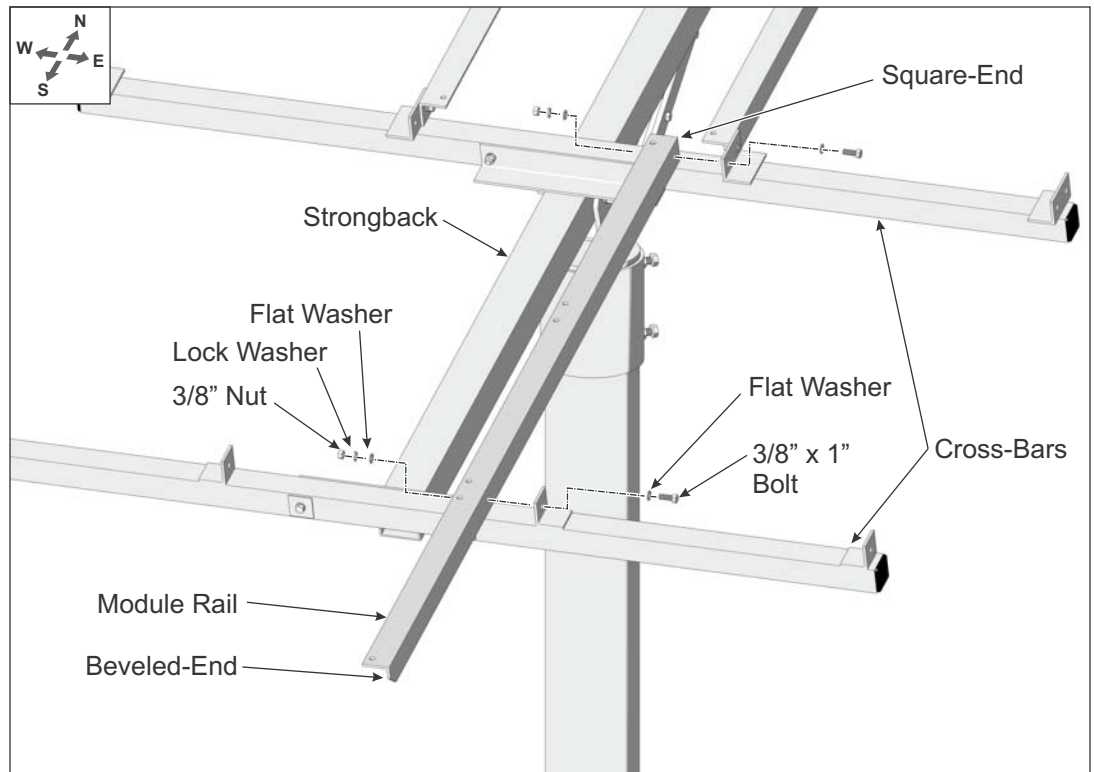

Figure 4-3: Installing the Southern-most inboard Module Rails to Cross-Bars
- B. Install the next Module Rail creating a butt joint with the previously installed Module Rail. (See Figure 4-3)